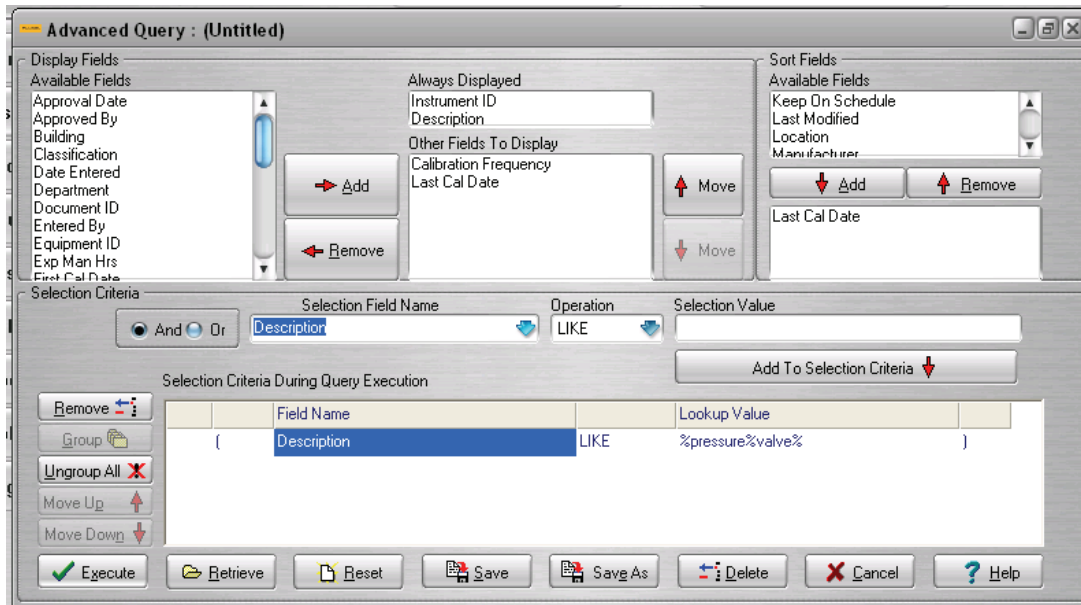

Figure 21.4
4. Finally, click the Add To Selection Criteria button to move it into the *Selection Criteria During Query Execution* box. Your screen will look like the one shown in Figure 21.4.